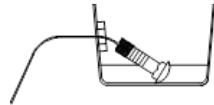

Figure 2
- Pull the pull wire with fasteners into location through the hole. Leave pull wires attached. Repeat the same process on both frame rails. Push the fasteners back into the frame rails with the pull wire attached, to allow the hitch to go into position. See figure 2
4. Pull the pull wire with fasteners into location through the hole. Leave pull wires attached. Repeat the same process on both frame rails. Push the fasteners back into the frame rails with the pull wire attached, to allow the hitch to go into position. See figure 2